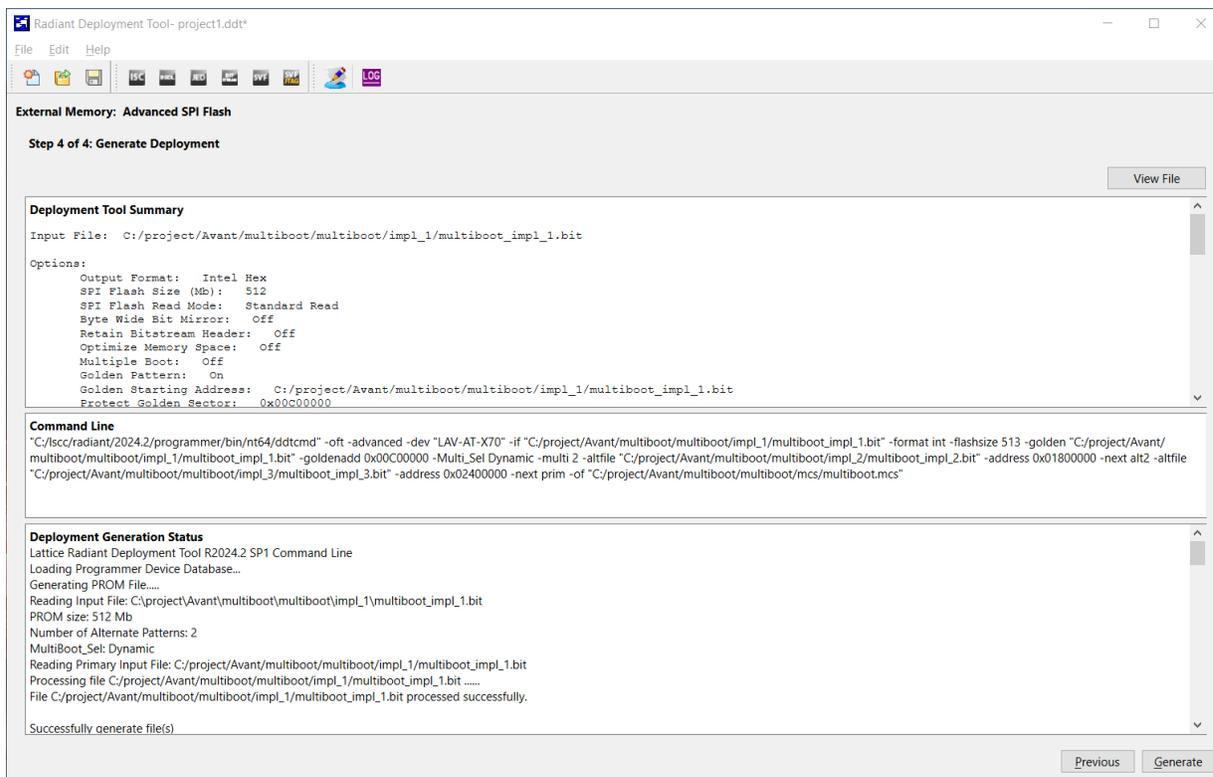

Figure 6.10. Step 4 of 4: Generate Deployment
- Click **Generate** to generate the .mcs file. You can close the window when the Deployment Tool prompts Lattice Deployment Tool has exited successfully (Figure 6.10).